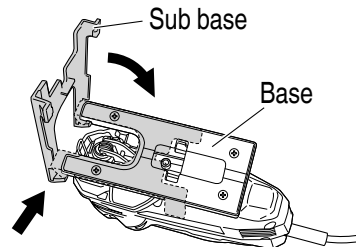

**Fig. 8**
- (2) Insert the splinter guard in the space on the base, and push it completely. (See **Fig. 8**)
- (3) Attach the blade.
- (4) Push the base all the way to the back position, and tighten the base bolts located at the bottom of the base to secure the base.